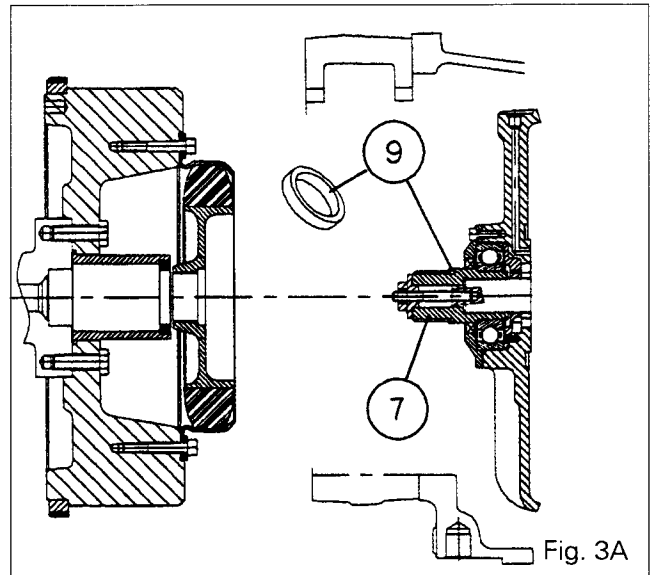
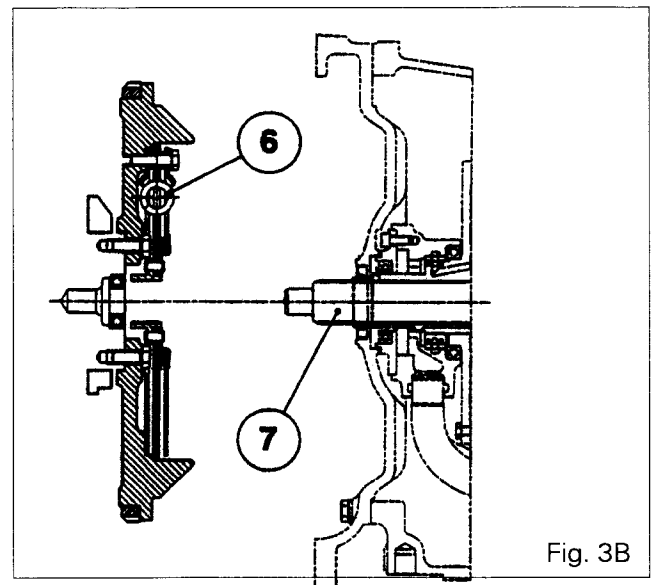

Fig. 3A
Fig. 3B
Note: Tractors of types 6170 to 6180 from serial number F058049 onwards and 6190 tractors (pressure-loaded clutch) are equipped with a damper (6) (Fig. 3B) different from the one fitted on the version with a spring-loaded clutch (Fig. 3A).
14. Lightly grease the splines on the shaft (7) (Fig. 3A and 3B) (grease of type GN + Molykote) and slide the bush (9) onto the shaft as shown in Fig. 3A (tractor with spring-loaded clutch and spacer between engine and gearbox).